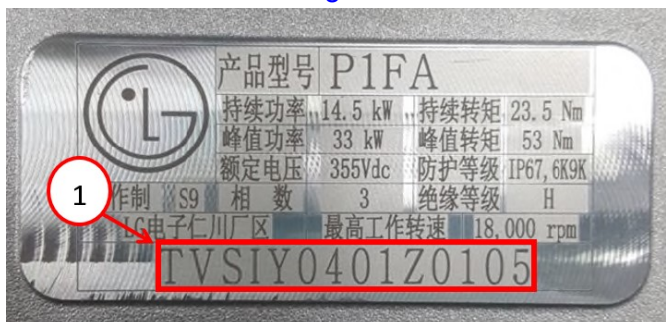

Fig. 2
- Read the serial number located on the MGU label Fig. 2.